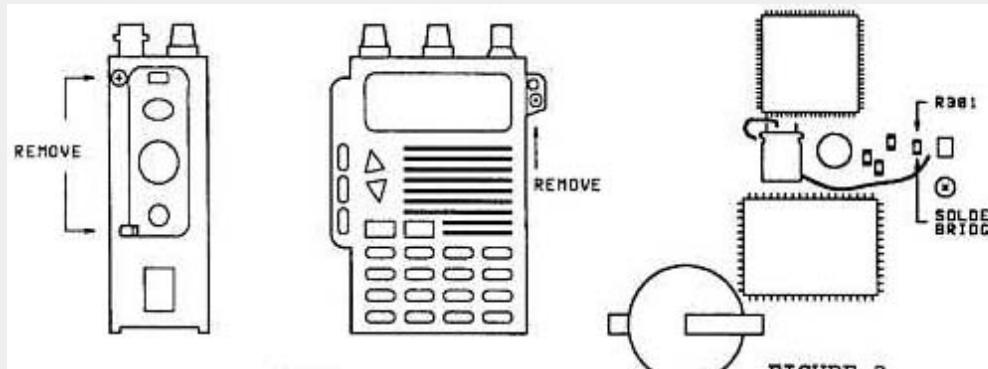

FIGURE 1
2. Remove the 4 screws from the battery terminal plate and then remove the plate. Figure 1.
3. Remove three case screws from the transceiver. Figure 1.